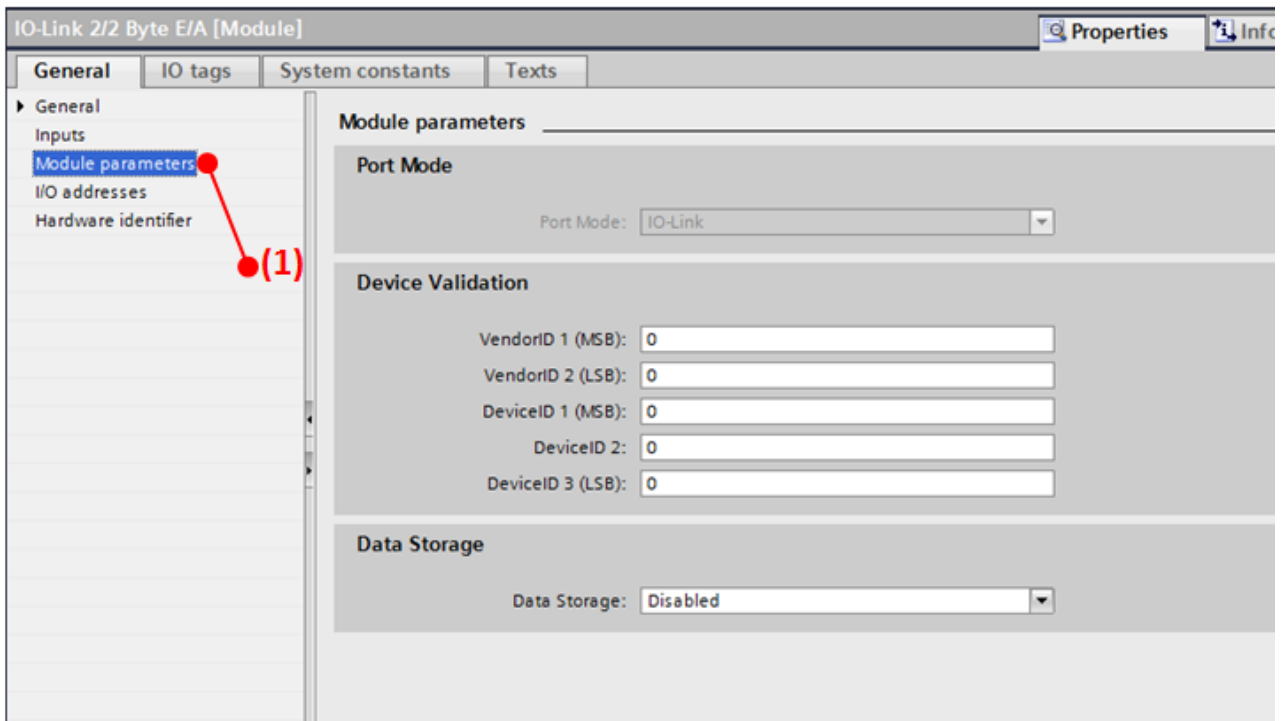

Figure 3-8 Switching to the "Module parameters" area
- Select port 5 again on slot 1.6; see Figure 3-8 on page 26.
- Switch to the “Module parameters” (1) area.
- Perform the settings above using the drop-down menu in the “Data management” area (2).